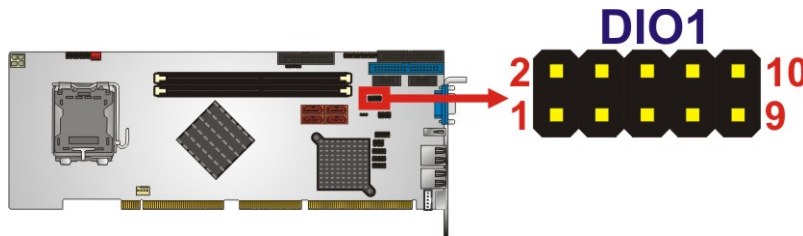

Figure 3-8: Digital I/O Connector Locations
- CN Location:** See **Figure 3-8**